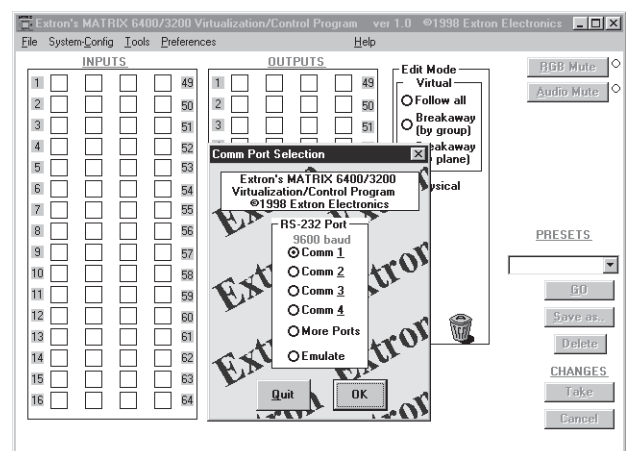

FIGURE 3-2.A
- Ensure that all BME's that will be part of the system have been connected to each other and their BME numbers have been set correctly. Establish an RS-232 connection between the PC and BME #0 of the Matrix 3200/6400 System. Start the MTRX6400 program (under Windows) and click on the corresponding **COMM PORT** number when asked (Figure 3-2.A). Click **OK**, or.....